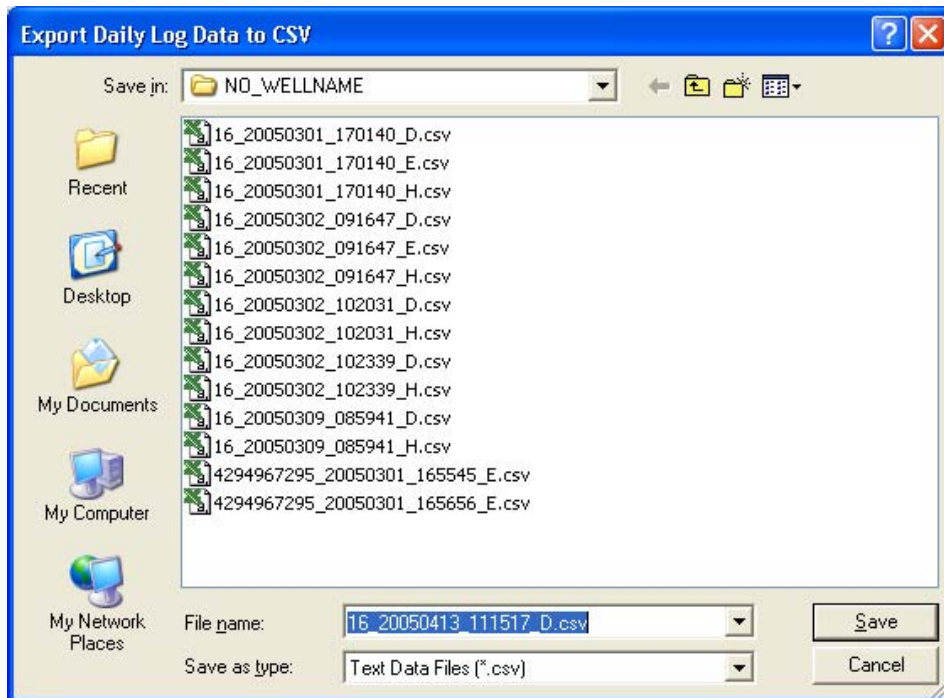

Figure 5.13—Default directory for exported log files
2. When the “Export Daily (or Hourly) Log Data...” window appears, click “Save.” By default, exported logs are saved in C:\NuFlo log data\MC-III<WELL NAME>, however the user can specify a new location, if desired (Figure 5.13, page 84). The “wellname” folder will bear the well name that appears on the Wellsite Information screen. If no well name is entered on this screen, the folder will be named “NO_WELLNAME.”